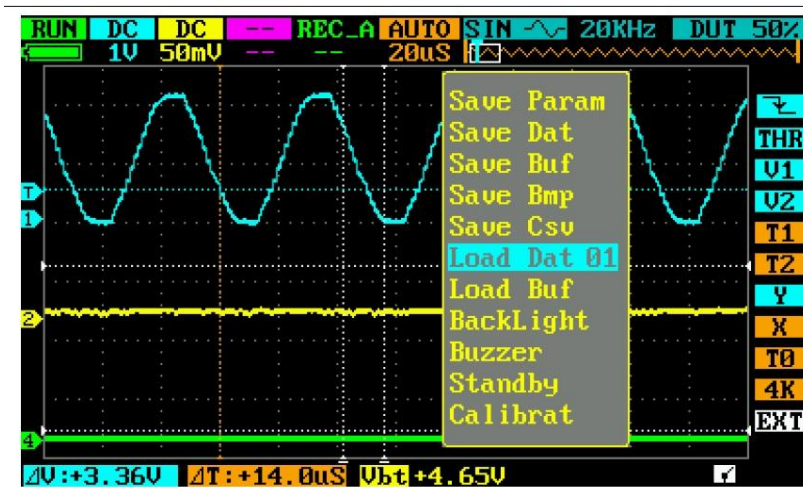

Figure 4.2
2. Input an unknown signal to CH_A. In E field choose REC_A. Press **■**, and choose Load Dat, as shown in Figure 4.2: